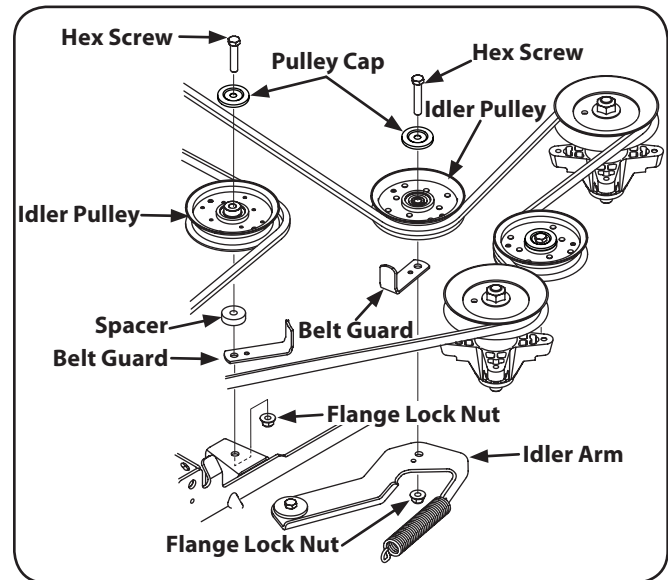

Figure 7-13
3. Remove the two idler pulleys by removing the hex screws and flange lock nuts that secure them to the deck and the idler arm. See Figure 7-13. Do not lose any of the hardware when removing the hex screw and flange lock nut.
6. Place the belt around the idler pulleys removed in step 3 with the "V" side facing in. Once in place, reinstall all the hardware and tighten the flange lock nut to secure the assembly. See Figure 7-13.
7. Route the belt as shown in Figure 7-13 and then reinstall the deck (refer to Deck Installation on page 29).